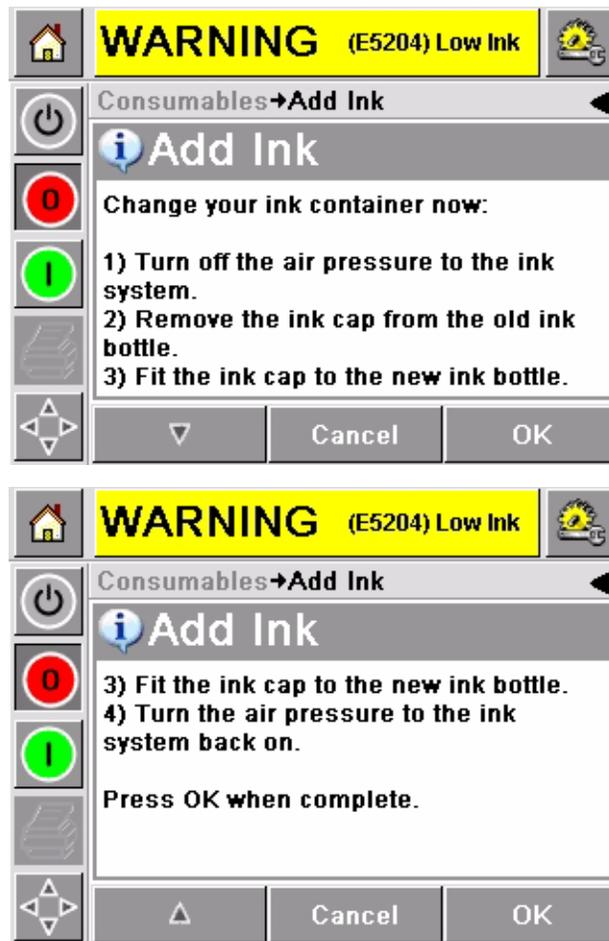

Figure 6-3: Change Ink Bottle
- 2 Follow the instructions that appears on the Warning Screen to change the ink bottle (Figure 6-3 on page 6-4).